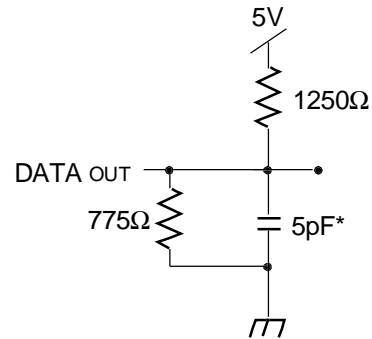

Figure 2. Output Test Load
1. Transition is measured $\pm 500\text{mV}$ from Low or High-impedance voltage Output Test Load (Figure 2).
- Transition is measured $\pm 500\text{mV}$ from Low or High-impedance voltage with Output Test Load (Figure 2). This parameter is guaranteed by device characterization but is not production tested.
7. This parameter is determined to be device characterization, but is not production tested. Transition is measured $\pm 500\text{mV}$ from steady state with the Output Test Load (Figure 2).